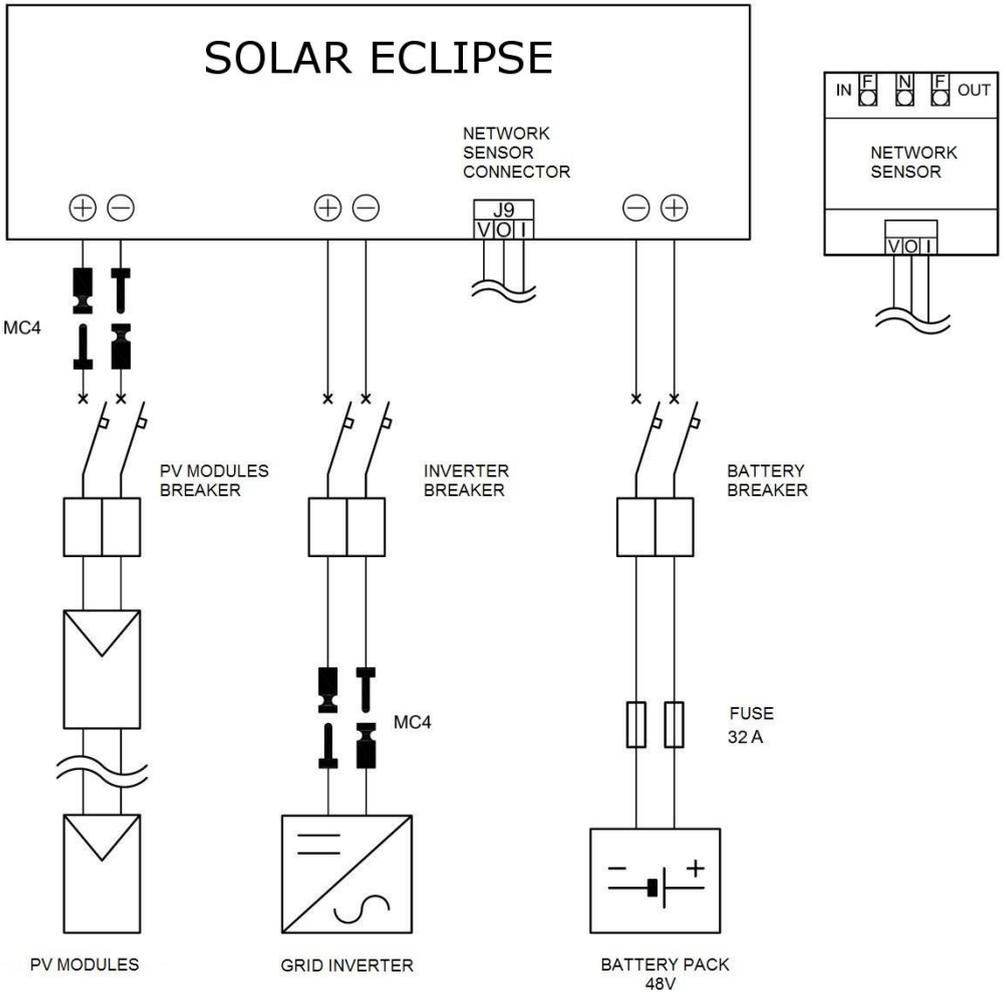
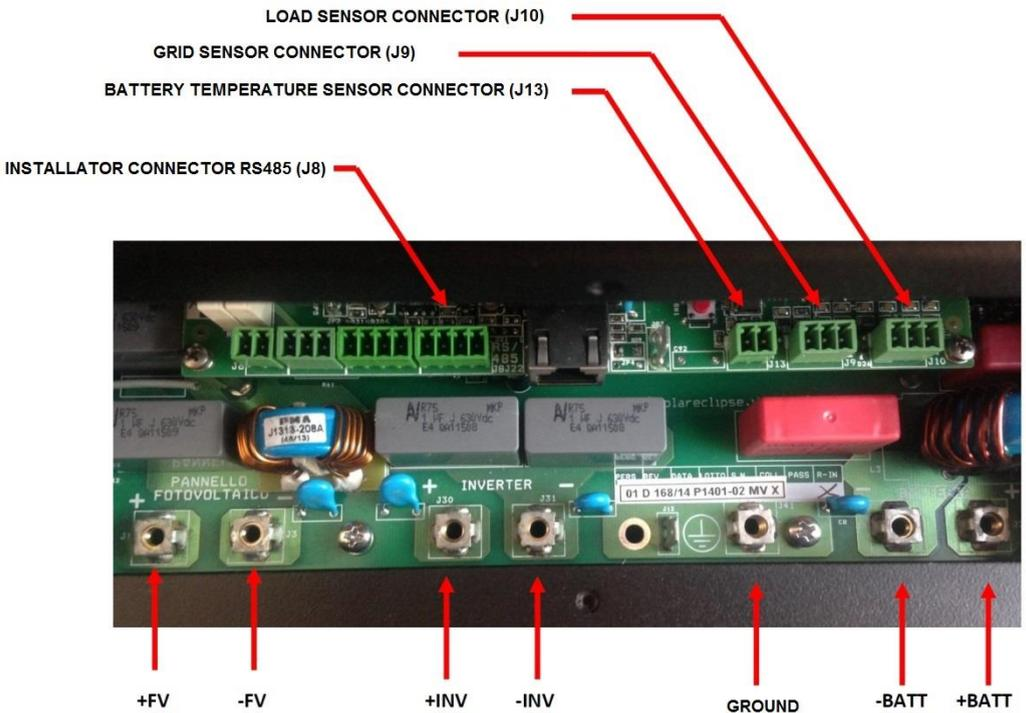

Figure 6 - Power wiring scheme
Figure 7 - Solar Eclipse wiring board
- Make sure the PV modules DC switch is open (see Figure 6)
- Connect the PV modules cables to the board (see Figure 7)
- Put a 32 A fuse box 32 A on the battery cables (see Figure 6)
- Verify that the battery switch is open (see Figure 6)
- Connect the battery pack cables to the Solar Eclipse board (see Figure 7)
- Connect the inverter to the board (see Figure 7)
- Connect the connector of the grid sensor (Power Meter) to the Solar Eclipse board (see Figure 7)
Install the Solar Eclipse grid Power Meter in the electrical panel or into the external panel, above the main PV plant DC switch as shown in Figure 6 and wiring the connectors as shown in Figure 7. Protect the sensor with a circuit 32A (max).
Connect the USB / RS485 interface cable to the PC and to Solar Eclipse (see Figure 7) ensuring that the Solar Eclipse is in lock state (LED indicator on the left flashes). Select the COM port using the dropdown at the bottom left used by your PC and initiate communication with the key "start." In the bottom bar will show the message in green "COMMUNICATION OK". The software Solar Eclipse Configurator is now successfully installed and ready to set the operating parameters of Solar Eclipse, and verify the optimal functioning of the system.